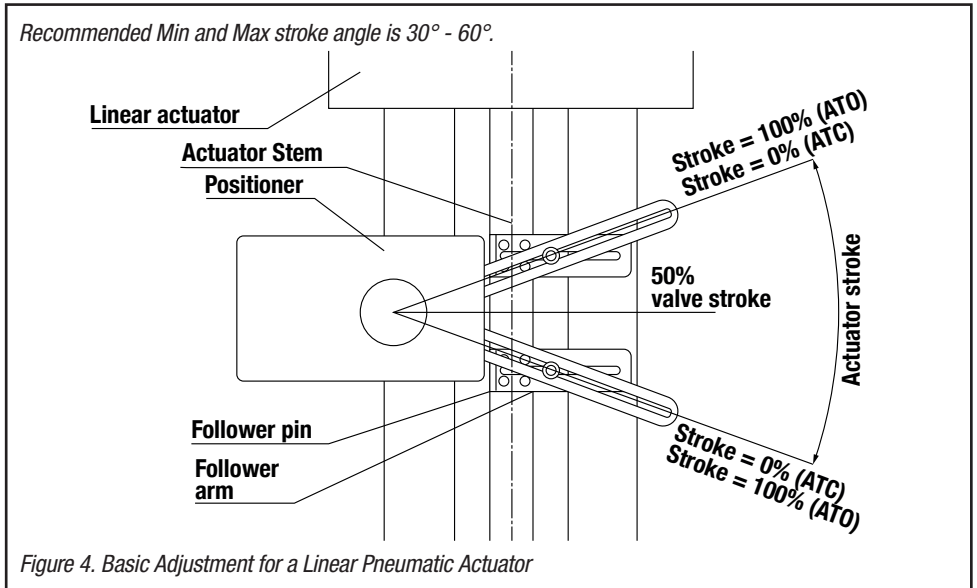

Figure 4. Basic Adjustment for a Linear Pneumatic Actuator
**Note:** A slight unsymmetrical mounting increases the linearity deviation but does not affect the performance of the device. Depending on the actuator size and stroke it may be necessary to flip the take-off-arm (Figure 4) by 180° and attach it to the opposite side of the stem clamp bracket.
### ***Follower pin adjustment (figure 4)***